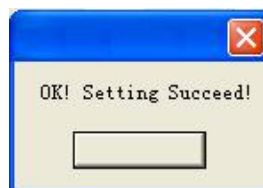

Fig. 7.10.13 Setup Time Succeed
d. Display system time in this dialog box, click "  ", cue shown as Fig. 7.10.13 appears, to renew time of FLC succeed.